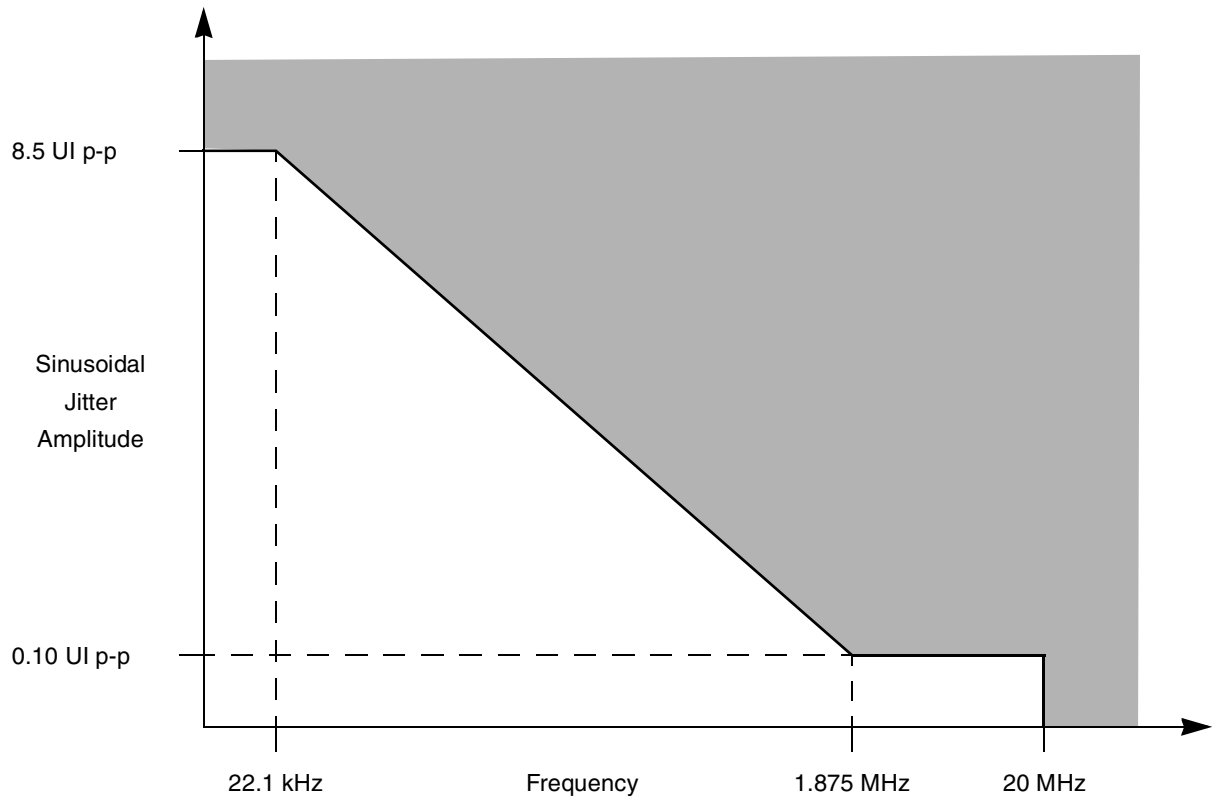

Figure 54. Single Frequency Sinusoidal Jitter Limits
1. Total jitter is composed of three components, deterministic jitter, random jitter and single frequency sinusoidal jitter. The sinusoidal jitter may have any amplitude and frequency in the unshaded region of Figure 54. The sinusoidal jitter component is included to ensure margin for low frequency jitter, wander, noise, crosstalk and other variable system effects.